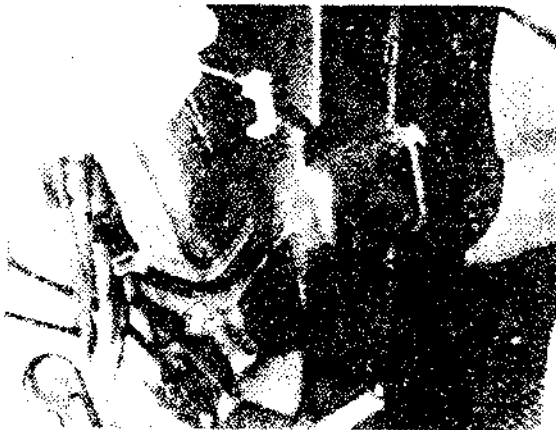

Fig. 5.1-2
(1) Disconnect defrost pipe on heater shell driver side, see Fig. 5.1-2.